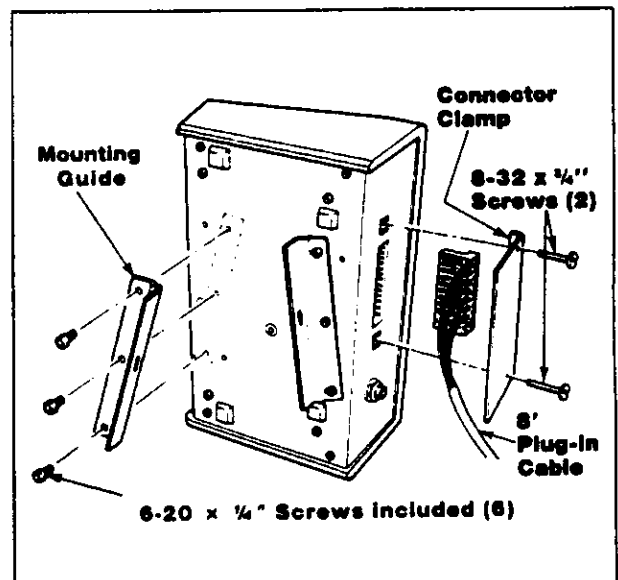

Figure 3. Attaching R-30 Mounting Guides
1. R-30 CONTENTS (SEE FIGURE 3)
2. **MOUNTING** - Attach the "A" mounting bracket to an electrical box per figure 2-C or to a pedestal mount per its instructions. Attach the mounting guides per figure 3 using the hardware included.